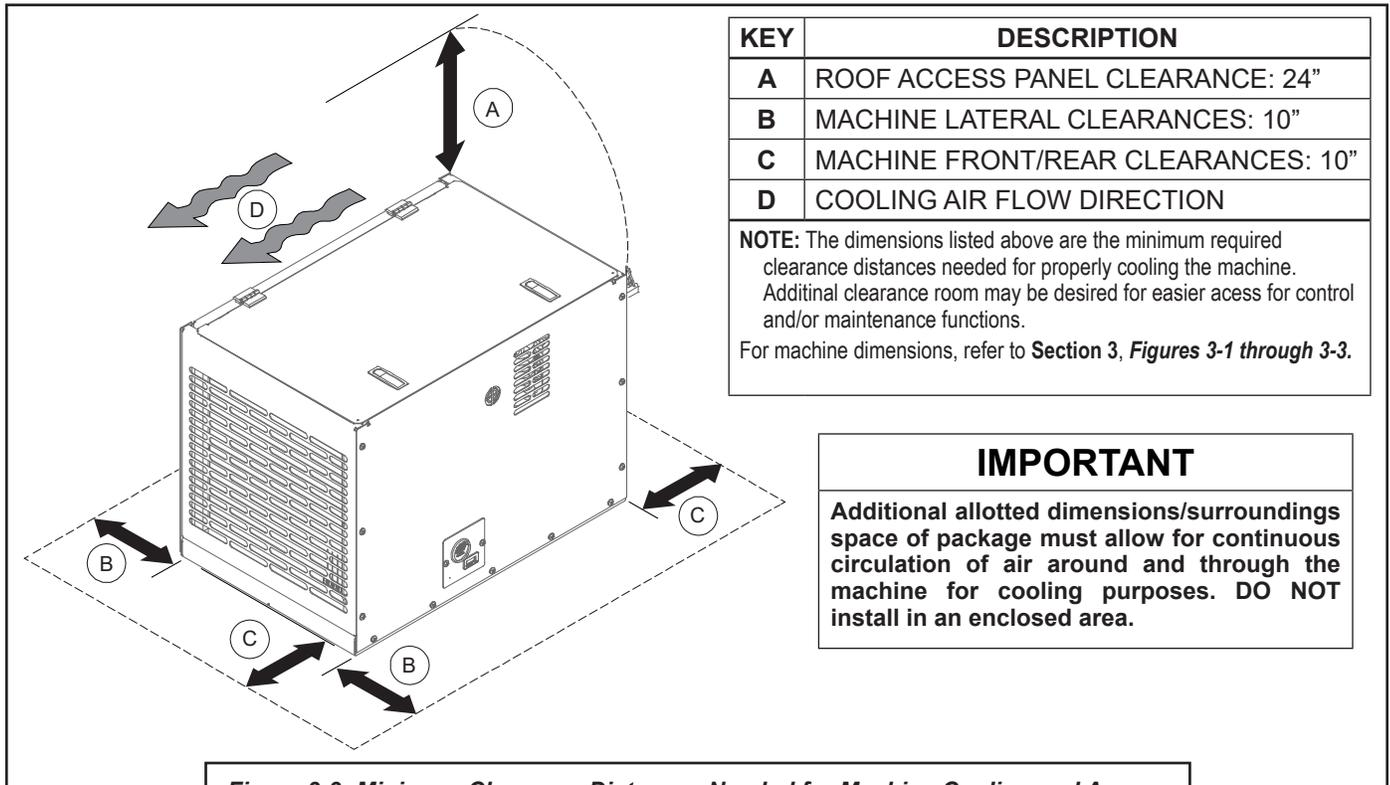

Figure 3-3: Minimum Clearance Distances Needed for Machine Cooling and Access
- The location must allow for the machine dimensions, and additional space requirements for minimum cooling, maintenance and access. Refer to **Figure 3-3** to determine the additional minimum space requirement measurements.
It is vital to locate the machine so that there is no restriction of cooling air through the enclosure (Refer to **Figure 3-3**). Cooling air enters the enclosure at the rear (cooler) package end of the machine, passes through the cooler and exits through vents in the upper sides and the front.
Refer to **Figure 3-3**. Ensure that adequate surrounding clearance space exists around the machine to allow for adequate cooling ventilation through the canopy shroud, unobstructed service access, and a clear view of the control panel. An approximate recommendation of ten (10) inches clearance, minimum, is needed for proper cooling circulation, plus any additional service access room included where needed.